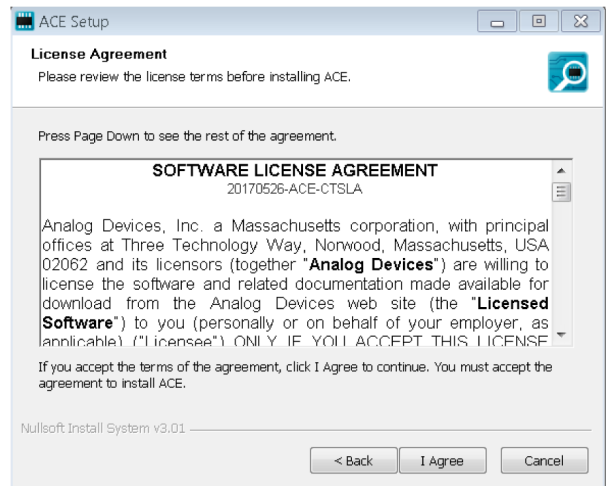

Figure 5. Evaluation Software Installation—License Agreement
5. Read the software license agreement and click **I Agree** (see Figure 5).